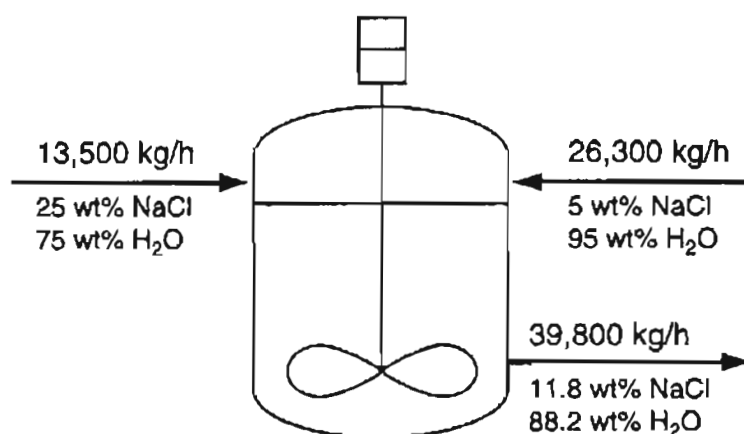

Figure P6.4
- ✓ *6.4 Mixers can be used to mix streams with different compositions to produce a product stream with an intermediate composition. Figure P6.4 shows a diagram of such a mixing process. Evaluate the closure of the overall material balance and the component material balances for this process. Closure means how closely the inputs agree with the outputs for a steady state process.